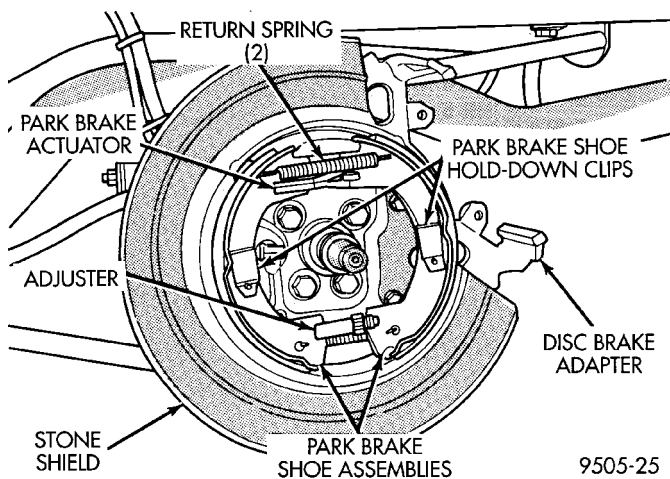
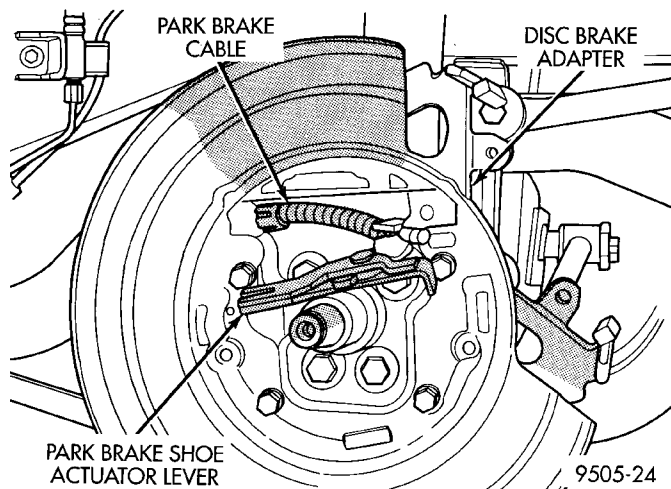
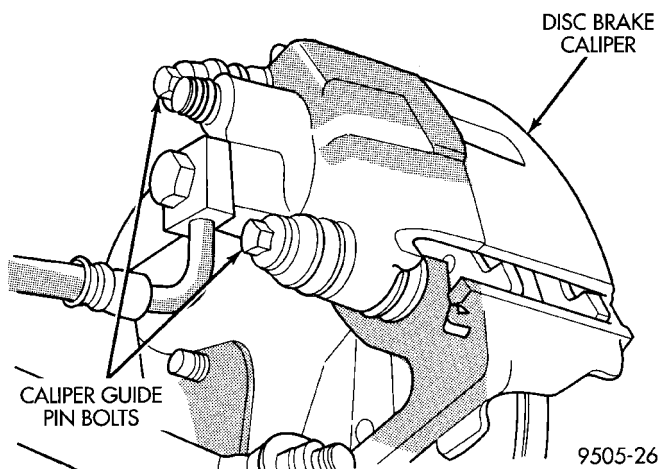
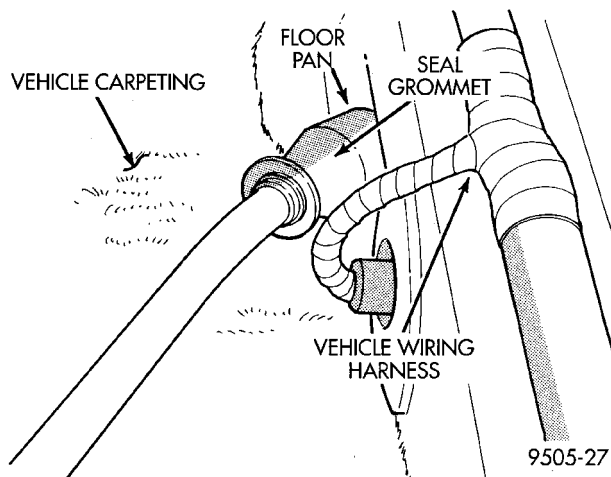

Fig. 148 Parking Brake Shoe Assemblies
Fig. 149 Parking Brake Actuator Lever
Fig. 154 Rear Caliper Guide Pin Bolts
Fig. 155 Seal Grommet Installation In Floor Pan
(19) **On vehicles equipped with rear disc brakes,** remove brake shoe assemblies (Fig. 148) from rear disc brake adapter. Then remove parking brake actuating lever (Fig. 149) from the park brake cable.
(5) **On vehicles equipped with rear disc brakes**, install park brake shoes actuator lever (Fig. 149) on park brake cable. Then install park brake shoe assemblies on disc brake adapter (Fig. 148).
(6) Install the hub/bearing assembly on the rear spindle. Then install **A NEW** rear hub/bearing assembly retaining nut. Torque hub/bearing assembly retaining nut to 217 N·m (160 ft. lbs.).
(7) Install hub/bearing assembly dust cap, using a soft faced hammer.
(8) On drum brake equipped vehicles, install rear brake drum on hub/bearing assembly. On vehicles equipped with rear disc brakes, install rotor on hub/bearing assembly.
(9) On disc brake equipped vehicles install disc brake caliper on disc brake adapter. Install the 2 caliper guide pin bolts (Fig. 154) and torque to 22 N·m (192 in. lbs.). Refer To Rear Disc Brake Service in this group of the service manual for the required caliper installation procedure.
(10) Install rear wheel and tire assembly on vehicle. Tighten all wheel stud nuts in criss cross pattern to one-half specified torque. Then repeat pattern, fully tightening stud nuts to 135 N·m (100 ft. lbs.).
(11) Lower vehicle.
(12) Grasp park brake cable to floor pan seal grommet (Fig. 155) by hand, and pull it into floor pan to ensure seal grommet is fully seated into floor pan.
(13) Route park brake cable under carpeting and up to park brake cable retaining bracket on floor